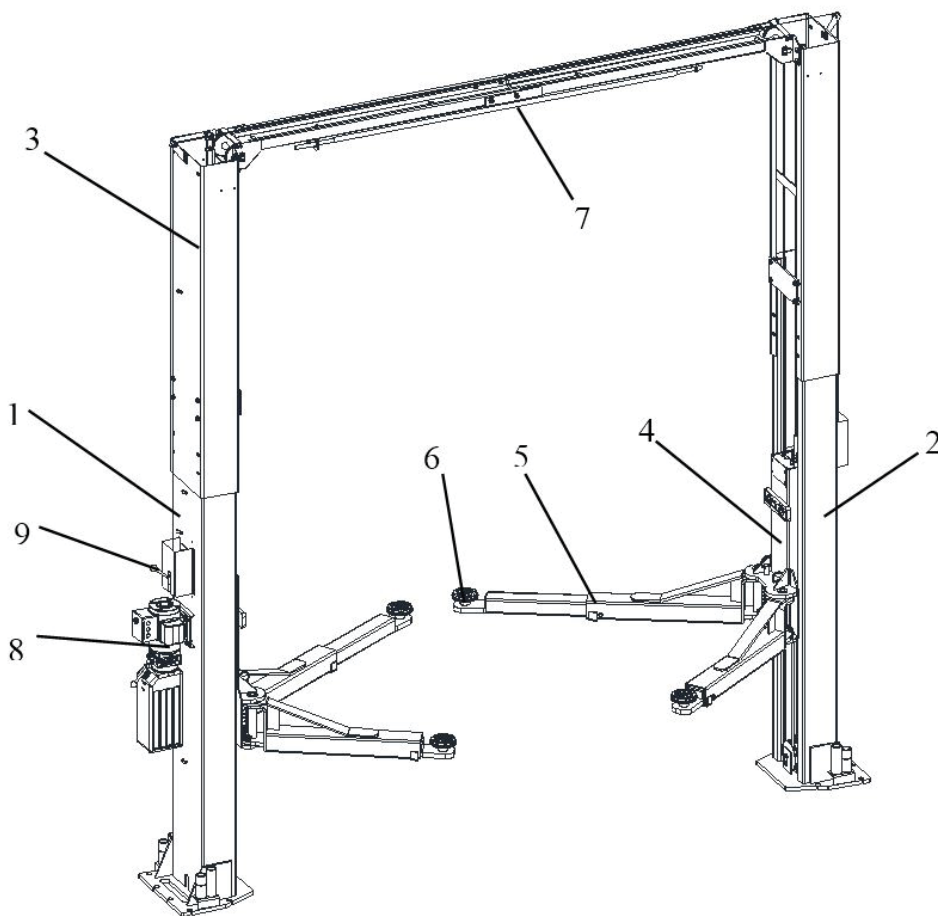

Figure 2 – Lift
As shown in figure 2, the lift is composed of two columns: power-side column (1) and off-side column (2) with the extension (3) on each, each equipped with a carriage (4) and a pair of lifting arms (5) with the adaptor (6) anchored to the ground by means of the column base. The overhead beam (7) is equipped with the anti-crush safety bar and an overhead cut-off switch for protection of the vehicle roof. Raising motion is carried out by pushing the lifting button on the